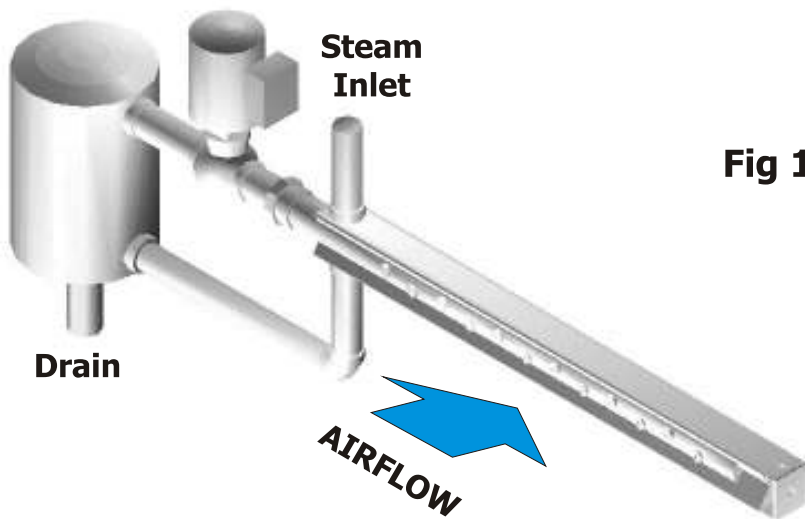

Fig 1. Right-Hand Configuration.
6.4 Changing from right-hand (Fig 1) to left-hand configuration (Fig 2).